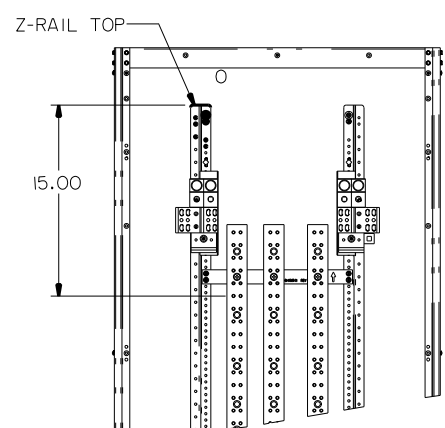
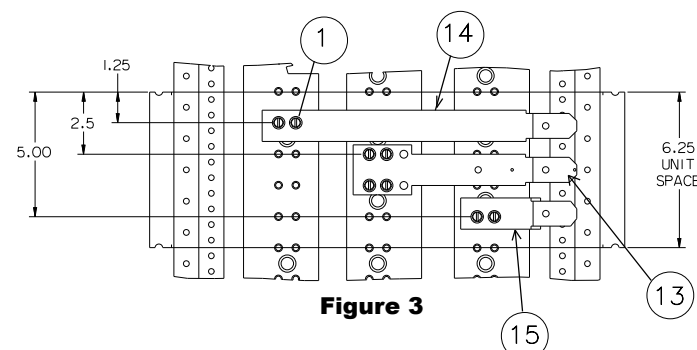

Figure 2
Figure 3
3. Reference fig. 2 - To locate mounting position of a VL JG & LG Frame main breaker, measure 15" from the top (or bottom for bottom feed applications) of Z-rail and mark position on Z-rail. The marked position acts as top (or bottom) of unit space for the strap assembly as shown in fig. 3.
5. Reference fig. 3 - Installing the strap assembly for left-feed applications (Flip assembly for right-feed applications). Locate two 0.228" diameter holes on the section bus, 1-1/4" down from the top of the 6-1/4" of unit space selected. Insert two 1/4-20 X 1-1/4" thread-forming screws (item 1) through the two holes in the long connector (item 14) and then into the 0.228" diameter holes in the section bus and tighten. Locate two 0.228" diameter holes 2.5" down from the top of the unit space and mark on Z-rail. Align the outer edge of the center connector (item 13) with the outer edge of the long connector. Insert four 1/4-20 X 1-1/4" screws (item 1) through the center connector (item 13) into the section bus using the Z-rail mark as the top (for top feed) or bottom (for bottom feed) hole location and tighten. Locate two 0.228" diameter holes 5.0" down from the top of the unit space and mark on Z-rail. Align the outer edge of the short connector (item 15) with the outer edge of the center connector. Insert two 1/4-20 X 1-1/4" screws (item 1) through the center connector (item 13) into the 0.228" holes in the section bus aligned with the 5.0" mark and tighten. Torque the screws as specified on the rear of the deadfront.